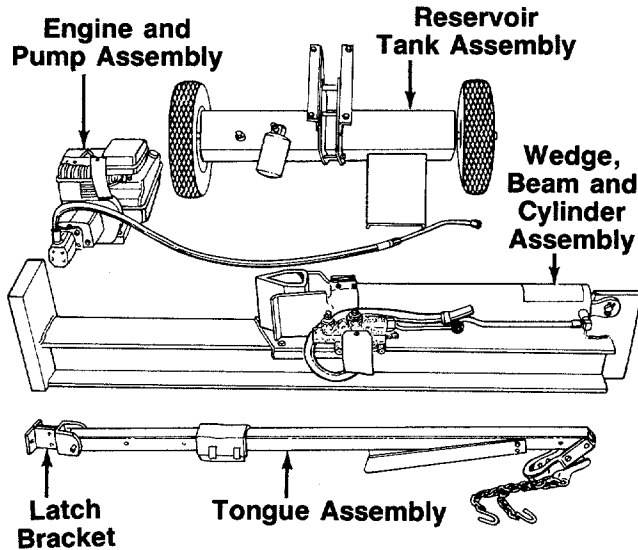

FIGURE 1.
### ← Parts in Cartons (See figure 1)
2. Remove the latch bracket which has been assembled to the other end of the tongue for shipping purposes only by removing another quick release pin. Refer to figure 1. This bracket will be reassembled to the beam on page 6. Replace the quick release pin in the latch bracket.